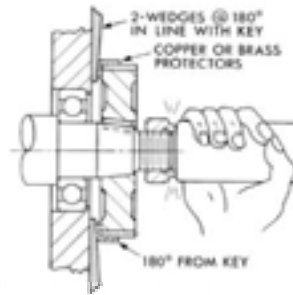

Figure 4A
- F. Remove taper-bore gear from bevel pinion shaft (Figure 4A or 4B). Leave locknut loosely threaded on shaft to prevent gear from “popping” out of drive. If gear is to be reused, protect the gear teeth with copper or brass sheet stock. Using wedges or pry bar, tap wedges behind gear or pry gear away from inner housing wall. While holding pressure on gear, lightly tap locknut on shaft end to loosen gear on shaft. Remove nut, other shaft assemblies (Step 7E) and taper bore gear, work high speed shaft assembly around high speed bearing oil distributor to remove.
- C. Remove taper bore gear from bevel pinion shaft: Leave gear locknut loose on shaft to prevent gear from “popping” out of drive upon fit release. Use gear removal methods as shown in Figures 4A thru 4D (wedge or pry bar method on sizes 284 thru 326 and wheel puller method on Sizes 357 thru 388). If required, apply heat to gear hub (with removal force applied) to release gear from shaft. Do not reuse gear if gear teeth were heated over 275°F. Remove locknut and gear.